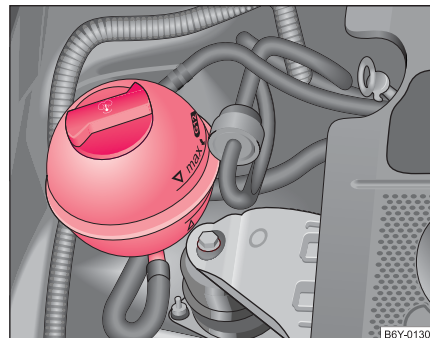

Fig. 129 Engine compartment: Coolant expansion bottle
- Check the level of coolant in the coolant expansion bottle ⇒ page 177, fig. 129. The coolant level when the engine is cold must lie between the “MIN” and “MAX” markings. The level may also rise slightly above the “MAX” marking when the engine is warm.
- Place a cloth over the cap of the coolant expansion reservoir ⇒ page 177, fig. 129 and unscrew the cap **carefully** by turning it to the left ⇒ .